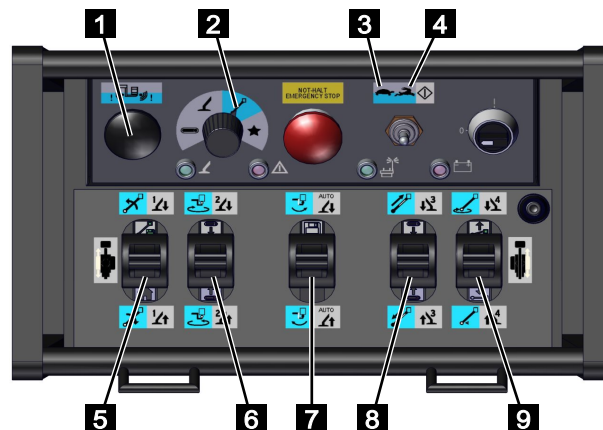

Fig. 166
5. Set the function selector on the radio control to [platform function] (blue) (Fig.166/2).
6. Use the mode selector on the radio control to select [crawl speed] (Fig.166/3) or [fast speed] (Fig.166/4).
7. In certain ranges, it will be necessary to press the collision button. To do so, you need to press and hold the collision (Fig.166/1) button while simultaneously using the desired control lever.
8. Use the control levers (Fig.166/5, 6, 7, 8 and 9) to operate the platform as per the following table.